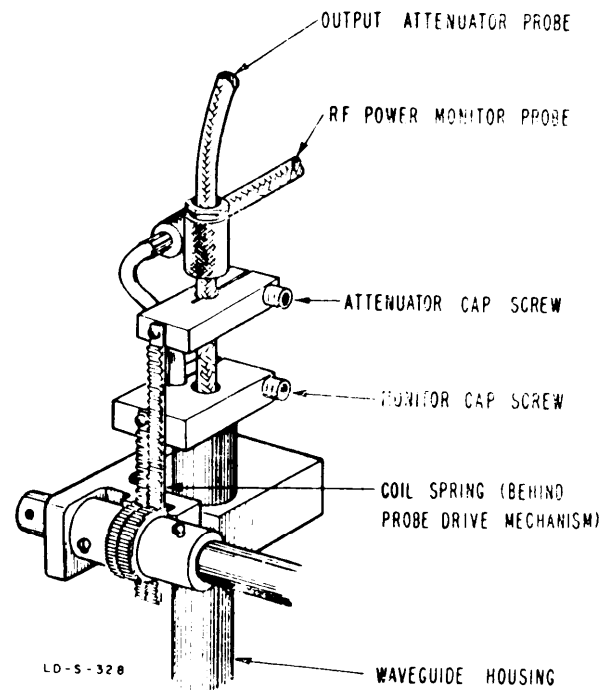

Figure 5-20. Attenuator and Monitor Probe Assemblies (620B).
c. Mark the attenuator cable where the cable enters the attenuator mounting block. Loosen the cap screw shown in Figure 5-20 on the mounting block holding the attenuator cable. Pull probe straight out.